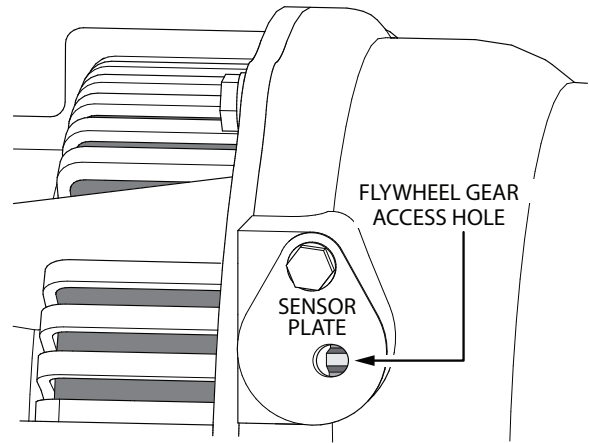

Figure 77. Flywheel Gear Teeth Alignment
4. Attach a ratchet to the crankshaft pulley and rotate the flywheel gear until the *highest point* of the flywheel gear tooth is visible as shown in Figure 77.